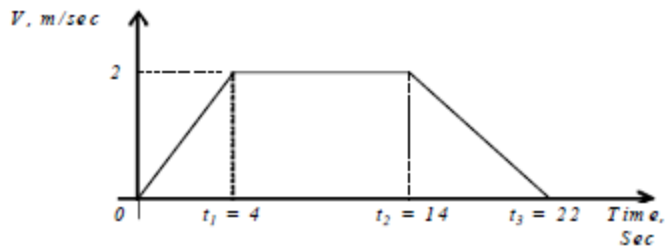

Figure 2
2. The drive of question 1 lifts and moves the load from point to point with a peak velocity profile as indicated in figure 2.